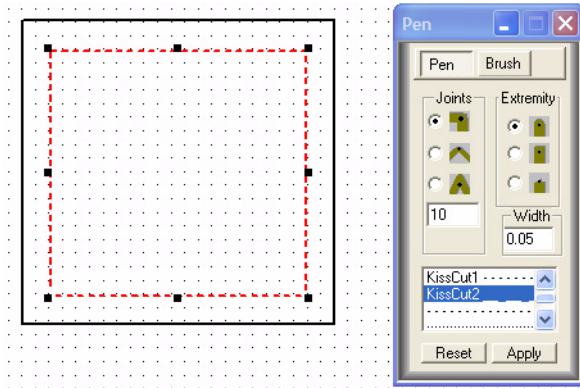

Figure 169
- 1 Click the **Pencil** tool on the left toolbar to open the **Pen/Brush** window. See figure 169.